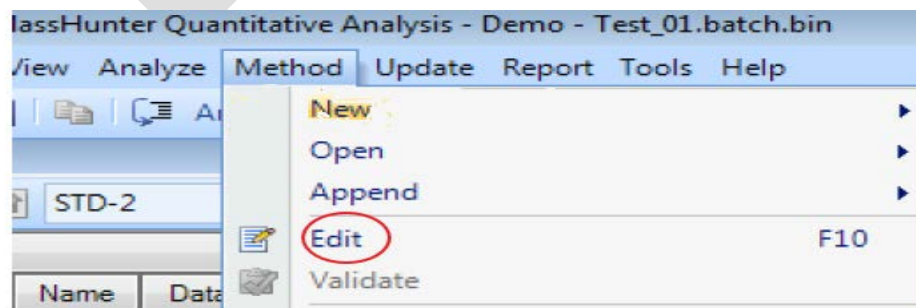

Fig.14
- d. Go to Method and Edit (Fig.14).